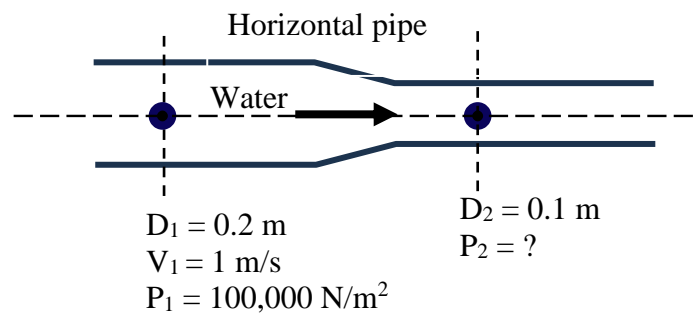

Figure Q9
9. In Figure Q9, what is the pressure downstream of the flow reducer, P_2 , if energy losses in flow can be neglected?